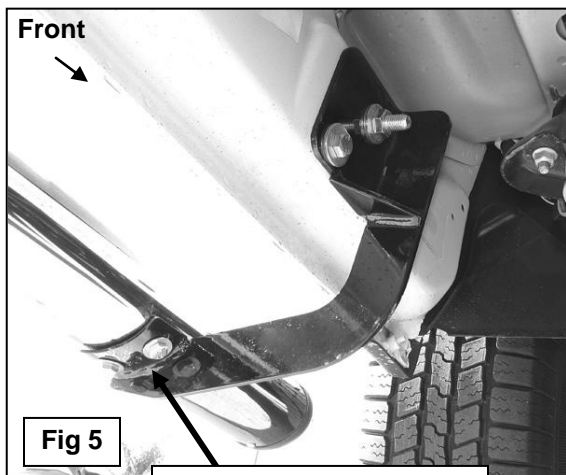

Fig 5
- Once all of the brackets have been installed, carefully position the driver Sidebar onto the Mounting Brackets. Partially attach the Sidebar to the cradles on the Mounting Brackets using the included (4) 8mm x 25mm Hex Bolts, (4) 8mm Lock Washers and (4) 8mm Flat Washers, **(Figure 5)**. Do not tighten hardware at this time.